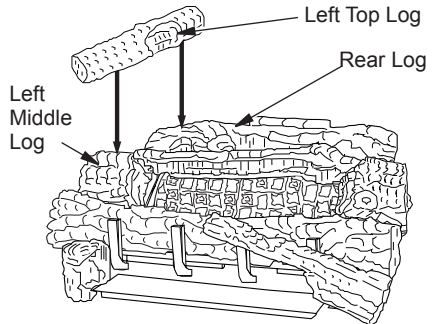

Figure 46 - Installing Left Top Log
10. Place the left top log (D-046) onto the rear log and the left middle log. Make sure to place the projection on the bottom of the left top log into the recessed areas on the rear and left middle logs (see Figure 46).